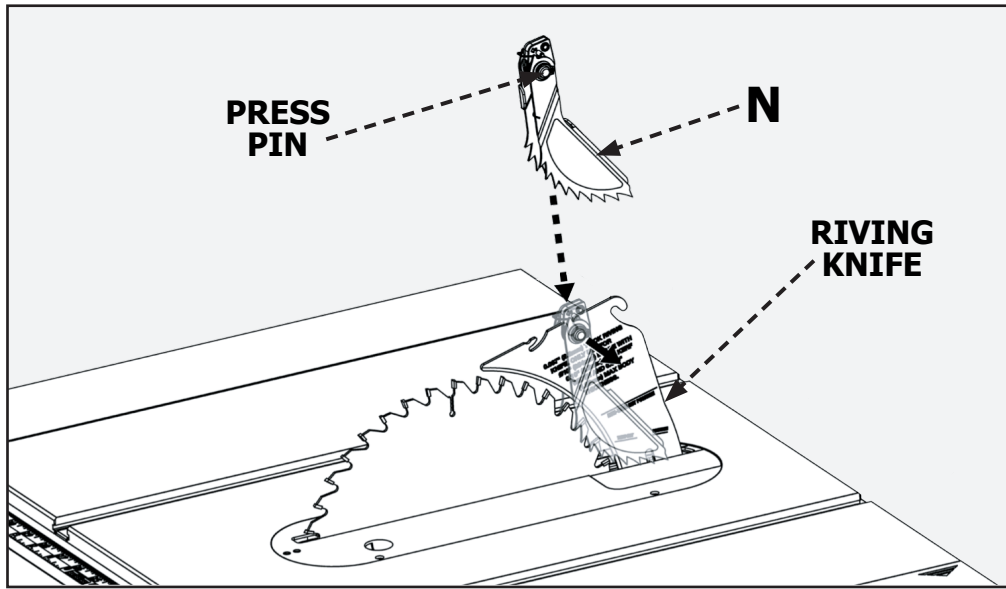

FIGURE 9
1. Refer to Figure 9 and locate the anti-kickback pawls mounting slot in the middle of the top edge of the riving knife.